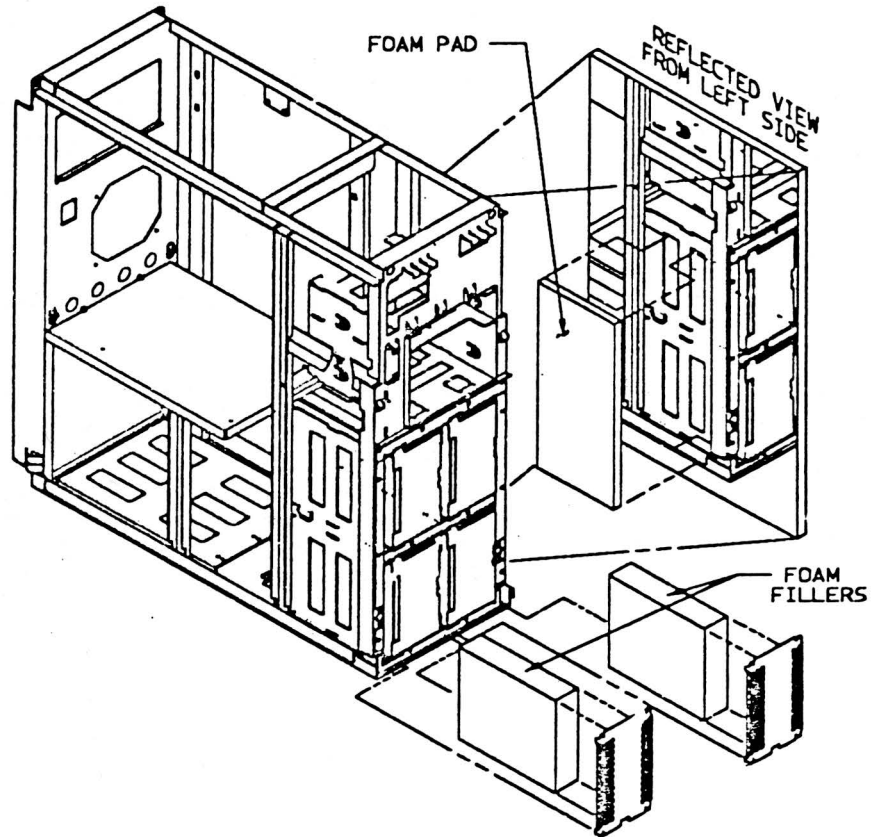

Figure 5
- 10.4.9 If a 314-MB file is being installed, apply thin slice of foam that is provided vertically as shown in Figure 5.
- 10.4.10 If a 314-MB file is being installed, insert foam fillers to any unused Drive C and Drive D slots as shown in Figure 5.